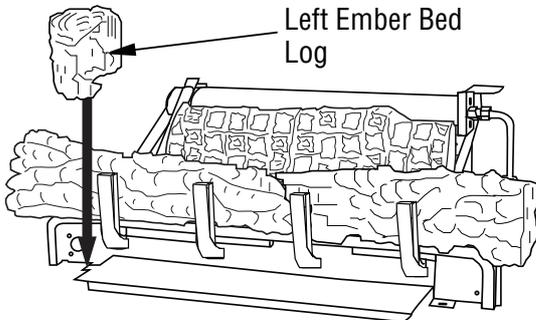

Figure 30 - Installing Left Ember Bed Log
- Place left ember bed log as shown in **Figure 30**. The log has groove on one side that sets on the ember bed pan. The back side of this log needs to rest against the front of the base assembly. Make sure the flame from the ember bed pan does not touch the ember bed log.